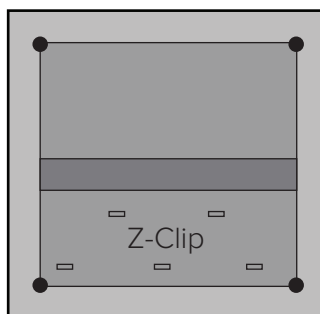

Figure 3.4.1
3.4.1 Fasten Z-clips to the cab shell at each open slot in the template as shown in Figure 3.4.1. Z-clip is approximately 8" shorter than panel width.